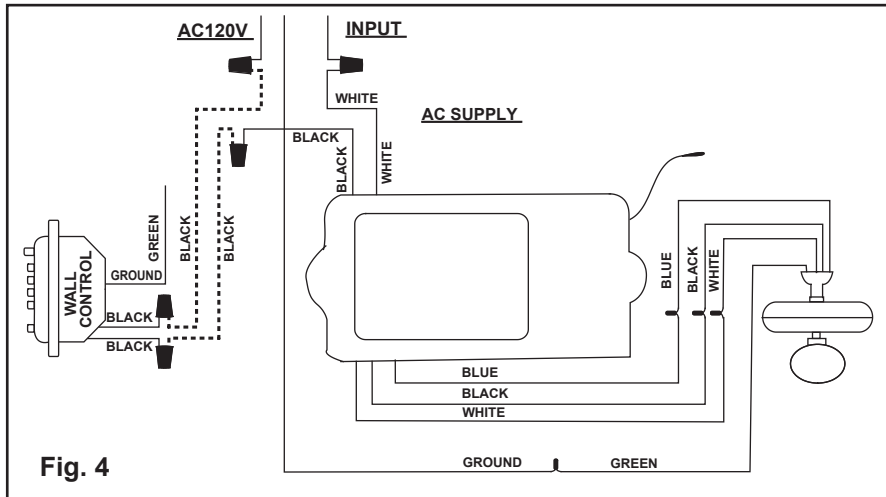

Fig. 4
- b. Make the electrical connections as shown in Fig. 4. If your outlet box has a ground wire (Green or Bare Copper) connect the transmitter’s ground wire directly to one of the screws from the outlet box. Secure all wire connections with the plastic wire nuts provided.